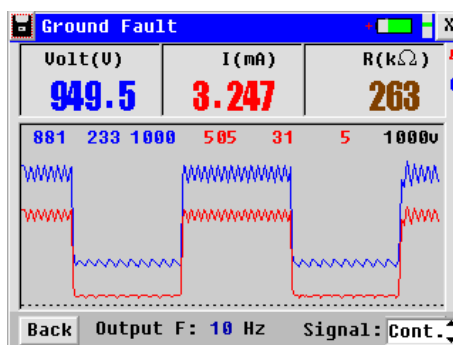

Fig 2.5
**IMPORTANT:** Please do the reference setting only AFTER signal generator is connected with the DC circuit and injects signal properly (in the last screen like Fig 2.5).
- 2) Before setting, make sure to set signal as “Continue” in signal generator (Fig 2.5).